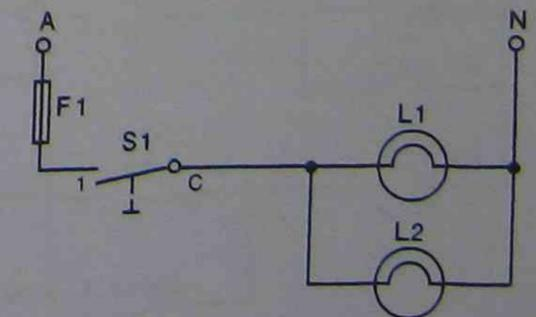

Figure 12 Circuit diagram
11. For the circuit diagram shown in Figure 12 neatly sketch on the layout of Figure 13 the wiring diagram for the circuit.